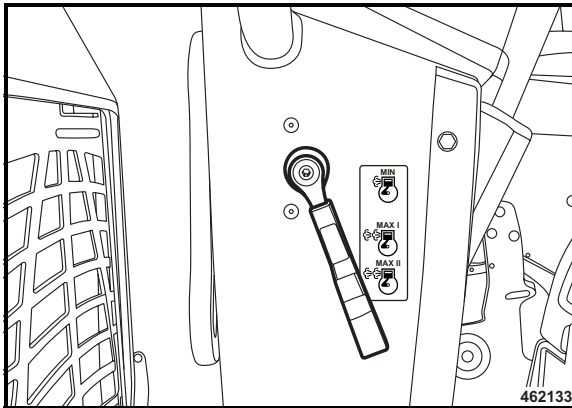

Fig. 95
- Set the throttle lever (Fig. 95) to position "MAX II".